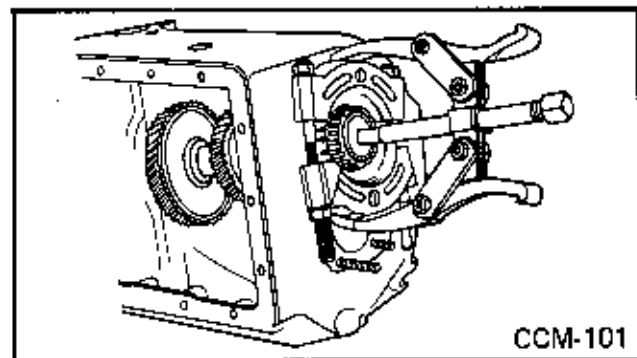

Fig. 96
11. Drive intermediate shaft to the rear, removing rear bearing cup. Use bearing puller to remove rear bearing cone. (Fig. 96)